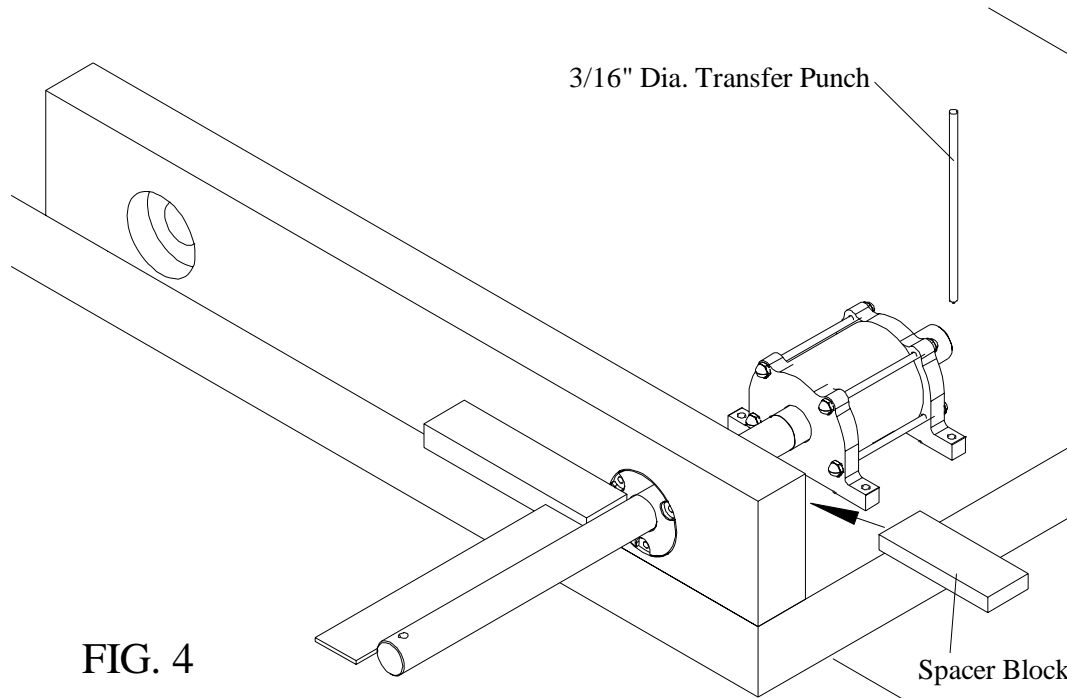

FIG. 4
Step 5: Make a spacer block that is 1/2" thick or less by about 4" long with a width equal to the amount of setback from the front housing to the rear jaw. Slide the clamp shaft forward and insert the shaft through the Delrin bearing. Slide the housing forward until it traps the spacer block against the rear jaw. Use a square to ensure the clamp shaft is perpendicular to the rear jaw. See Fig. 4. Use a transfer punch to mark the 4 mounting hole locations. Remove the vise assembly and spacer block and drill 9/64" Dia. X 1" deep holes at the 4 marked hole locations.